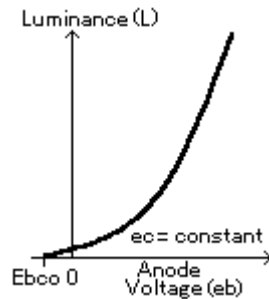
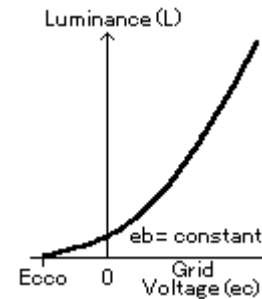

Fig.12 Anode Voltage and Luminance
Fig.13 Grid Voltage and Luminance
Luminance (L) varies with the anode voltage (eb) as shown in Fig.12 when the grid voltage (ec) is a constant. Luminance also varies with the grid voltage as shown in Fig.13